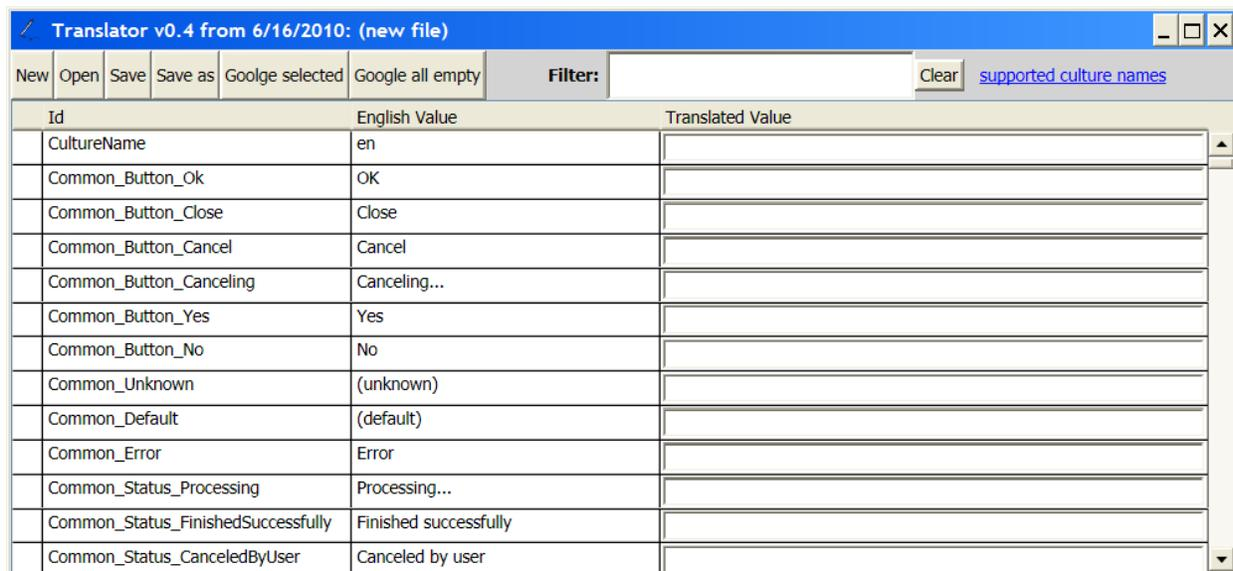

Figure 33 – CastAway™ Translator
- This will open the CastAway™ Translator program (Figure 33).